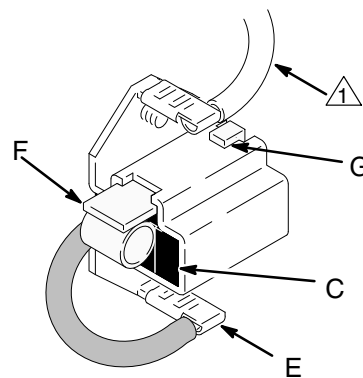

Fig. 17 03881
8. Holding the spring clip (F) at a slight angle, slide the spring clip into the brush holder and hook it over the end of the holder. See Fig. 17. Pull on the spring clip to be sure it stays in place. Connect the brush lead to the blade connector (E).